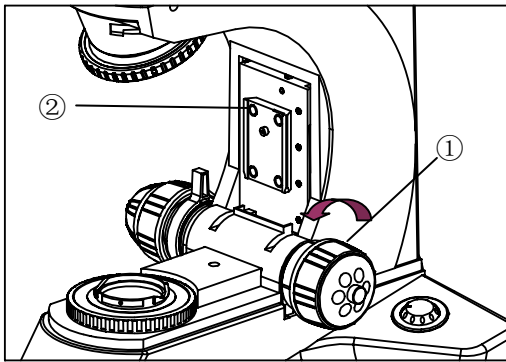
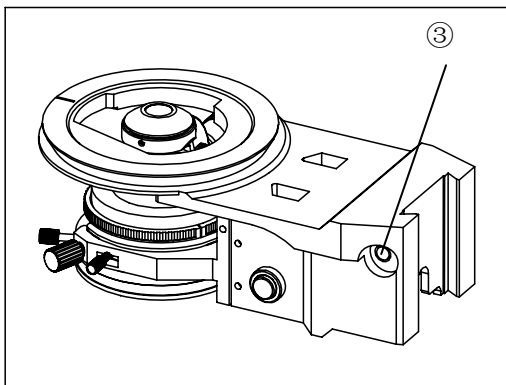

Fig.1
Fig.2
1. Before installing the device, be sure to adjust the coarse focus knob①. Make the guide board② (see figure 1) down to the lowest position, so you can install the mechanical stage support device easily.
2. Hold on the mechanical stage support device (figure 2), place it from the top of the guide board (figure 1), and let the device (figure2) falling free until it reach the limit position. Use the hexagon wrench screw down the locking block ③ to make the stage support device and the guide board fixed together.